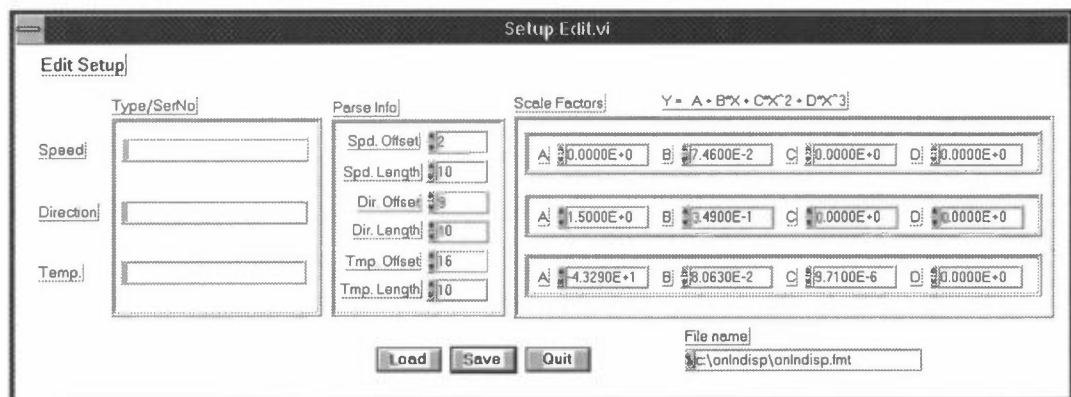

Fig. 5: The Edit Setup dialog box.
2. Enter the password and choose OK. The Edit Setup dialog box appears, se fig. 5.